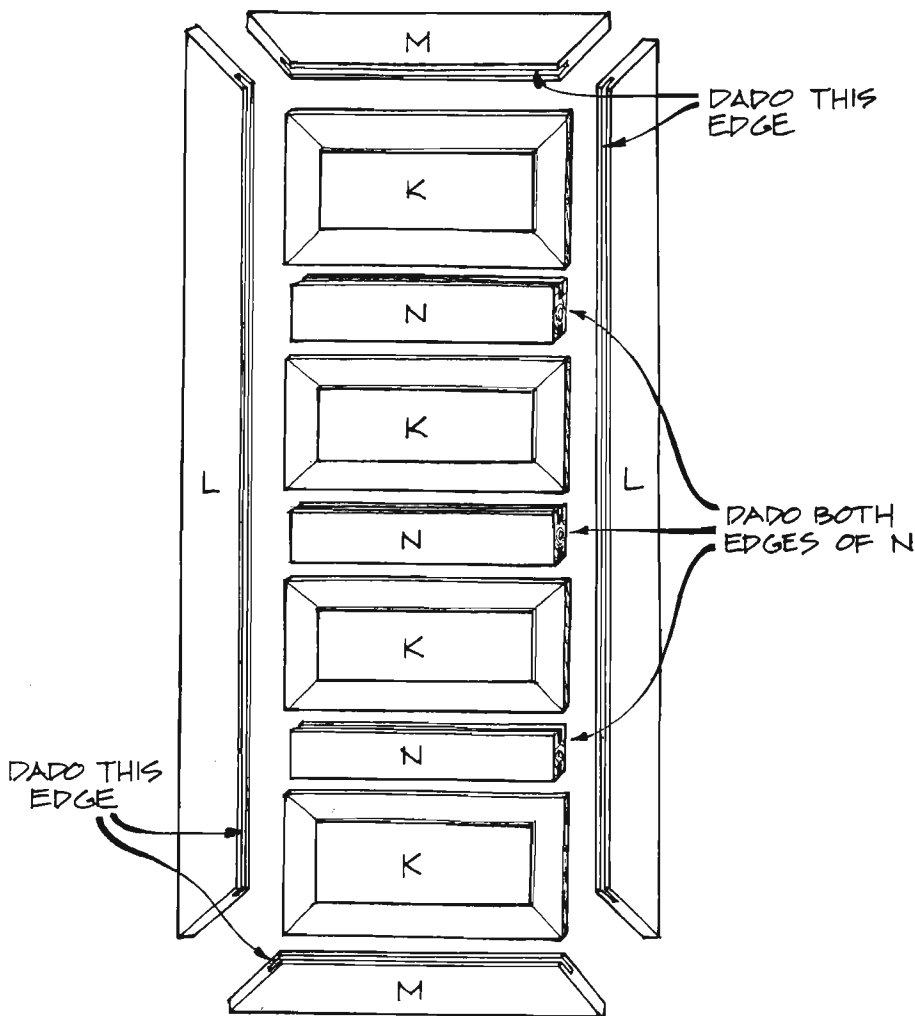

Figure 5
3. The assembly of the panels within the outer frame is shown in *Figure 5*. To make the frame, rip a total of 13 linear feet of 1 x 4 pine to a width of 2 inches.
4. Cut two side frame pieces (L) from the ripped 1 x 4 pine, each 35-1/2 inches long.
5. Setting each side frame piece (L) on its face, miter both ends at a 45-degree angle as shown in *Figure 5*.
6. Cut two top/bottom frame pieces (M) from the ripped 1 x 4 pine, each 18 inches long.
7. Setting each top/bottom frame piece (M) on its face, miter both ends at a 45-degree angle as shown in *Figure 5*.
8. Cut three inner frame pieces (N) from the ripped 1 x 4 pine, each 14 inches long.
9. The four panels (K) float in a dado that is cut into the frame pieces. Cut a dado 1/4 inch wide and 3/8 inch deep into the shorter edge (which will face toward the center of the finished door) of the top, bottom, and side frame pieces (L and M). (For some assistance in cutting dados, refer to the "Tips and Techniques" section.)
10. Cut a dado 1/4-inch wide and 3/8-inch deep into both edges of all three inner frame pieces (N).
11. To make certain that all pieces fit together perfectly, the door should first be assembled without glue or nails. Lay all of the door parts on a level surface. Then, referring to *Figure 5*, place the top frame (M) between the two side frames (L), and match the miters. Set the first panel (K) into the dados in the frame pieces (L and M), and fit one inner frame piece (N) between the side frame pieces (L) below the panel. Next, alternately add three more panels (K) and two more inner frame pieces (N). Finally, add the bottom frame piece (M).